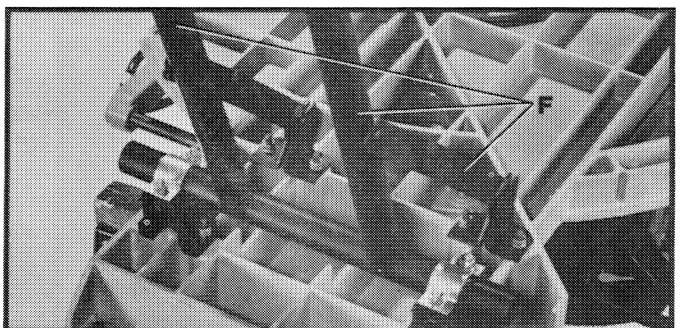

Fig. 4
4. Fig. 4, illustrates one leg assembly (F) assembled to the bottom of the saw.